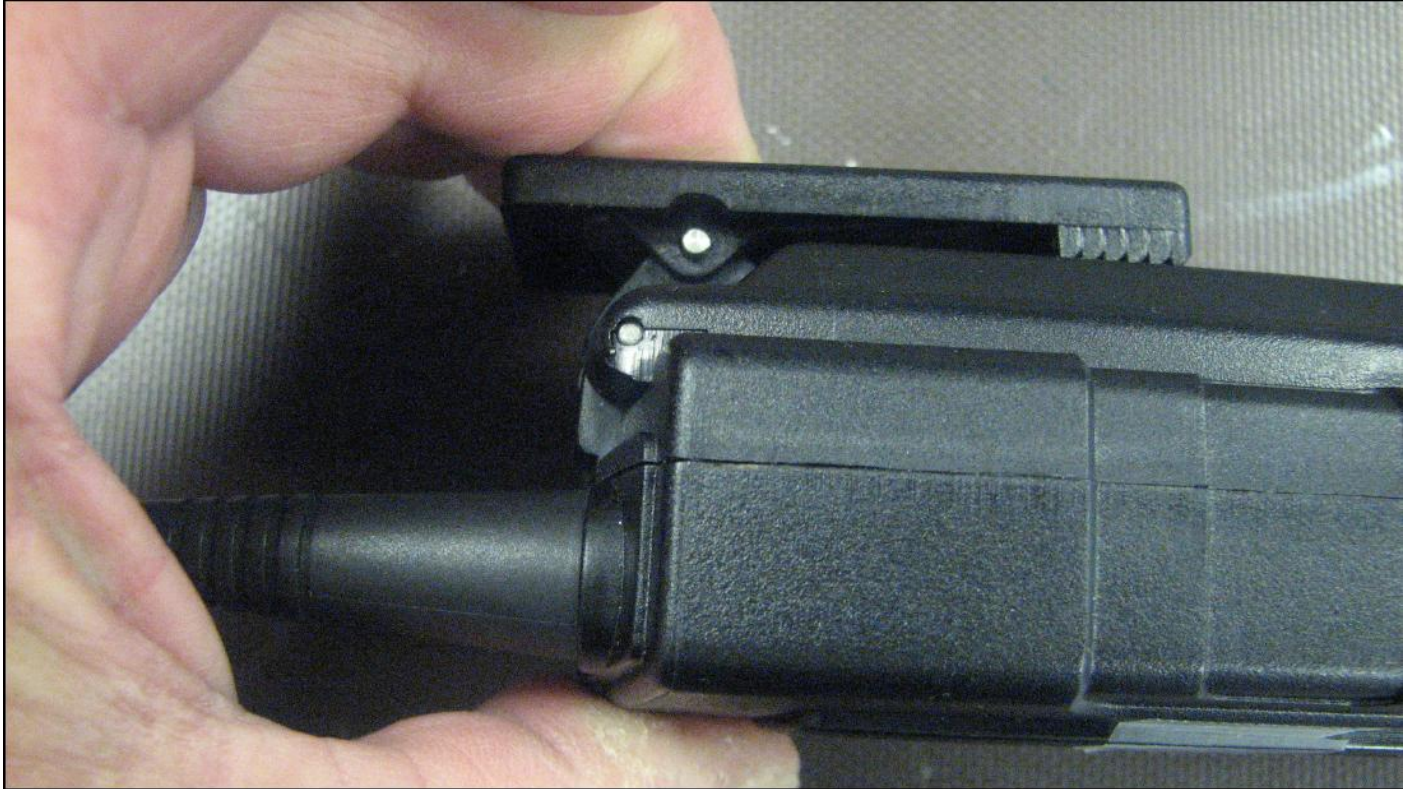

Fig. 1
1.1 Hold Trulink assembly with finger and thumb as illustrated in photo Fig.1.